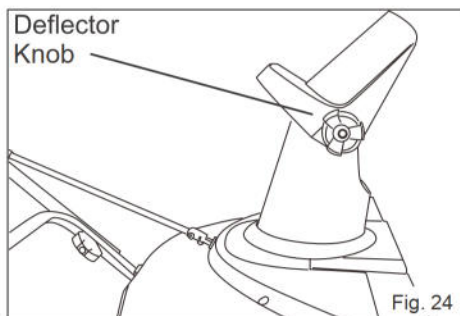

Fig. 24
2. The chute deflector on the top of the discharge chute controls the height of the snow stream. Loosen the knob to raise or lower desired height of snow you wish to throw. Tighten the knob to secure the detector (Fig. 24).
WARNING: Make sure that the chute deflector snaps and locks completely onto the discharge chute. An opening between the discharge chute and the chute deflector may allow foreign objects to be picked up by the snowblower and thrown in the direction of the operator causing serious boldly injury. Do not advance the chute deflector too far forward causing an opening to appear between the deflector and discharge chute. Do not over tighten the knobs on the chute deflector (Fig. 24).